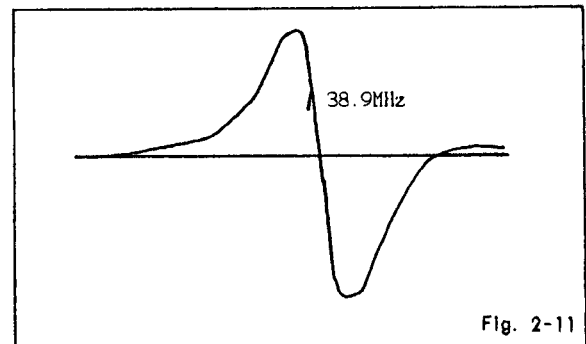

Fig. 2-11
1. Connect output of the sweepmarker generator to Tuner Pack TP and adjust L6005 so that output waveform for TP6002 is as shown in Fig. 2-11.